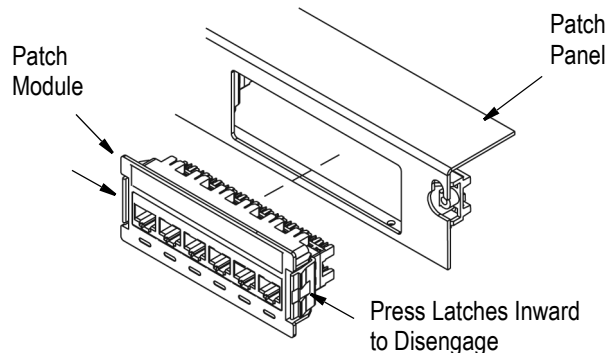

Figure 2
1. Remove the patch modules from the patch panel by pressing the latches inward until the latches disengage from the opening. Refer to Figure 2.